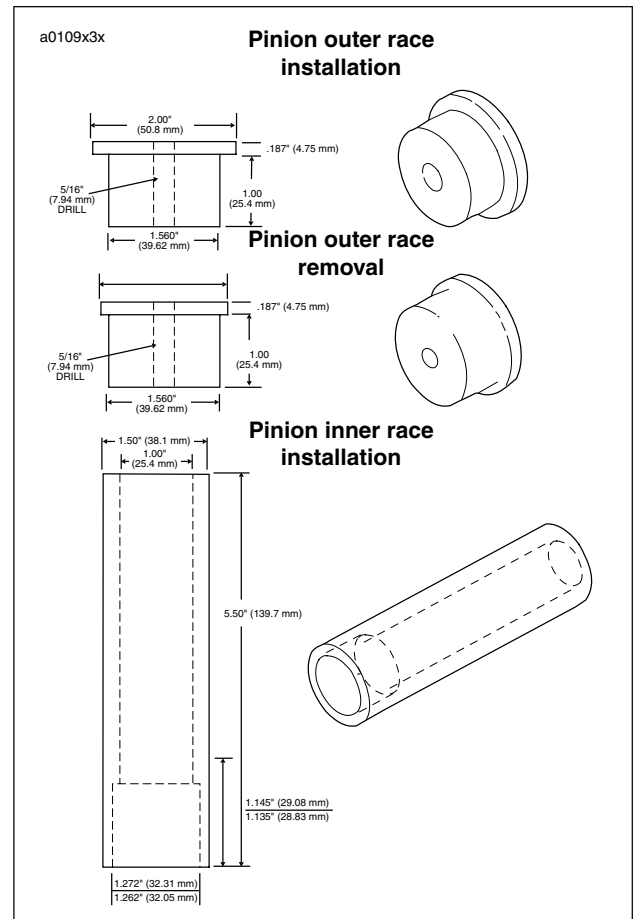

Figure 3-121. Pinion Shaft Bearing Tools
- See Figure 3-121. Dimensions are shown for fabrication of tools used in pressing the outer race into or out of crankcase.
8. Press **new** inner race on pinion shaft as shown. The **new** inner race must be ground by a competent machinist to OD dimension range for the finished lapped ID of the outer race. Refer to Table 3-36. The finished inner race must meet these specifications. For necessary dimensions for constructing a press-on tool see Figure 3-121. When the tool bottoms against the flywheel, correct inner race location is automatically established.